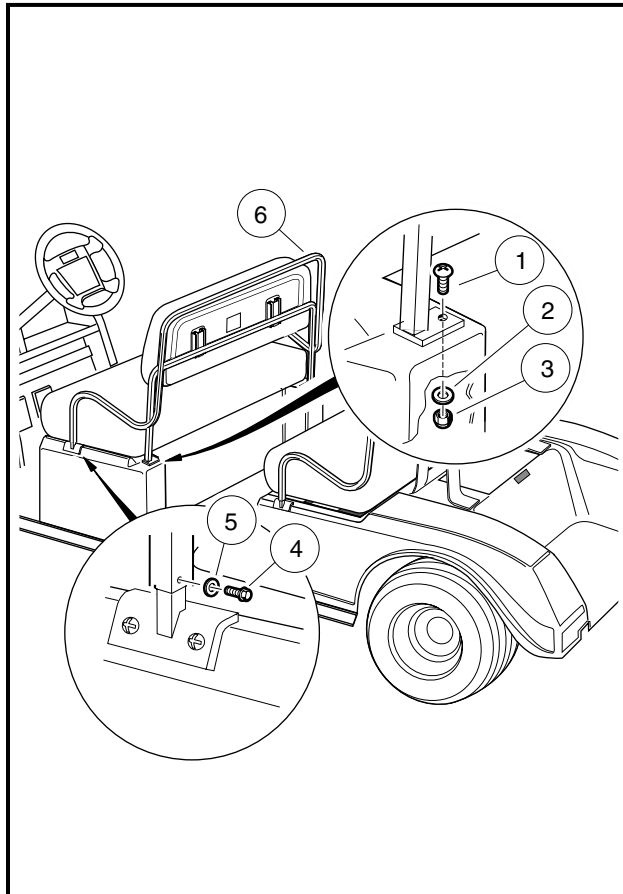

Figure 4-2 Center Body Seat Back Assembly
3. Remove screws (4) and washers (5) from the each side of the armrest/seat back assembly (6) (**Figure 4-2, Page 4-5**).
4. Remove the screws (1), lock nuts (3) and washers (2) from each side of the armrest/seat back assembly (6).
5. Remove the armrest/seat back assembly (6) (**Figure 4-2, Page 4-5**).
2. Tighten screws (4) to 9 ft-lb (12.2 N·m) and screws (1) to 18 in-lb (2.0 N·m) (**Figure 4-2, Page 4-5**).